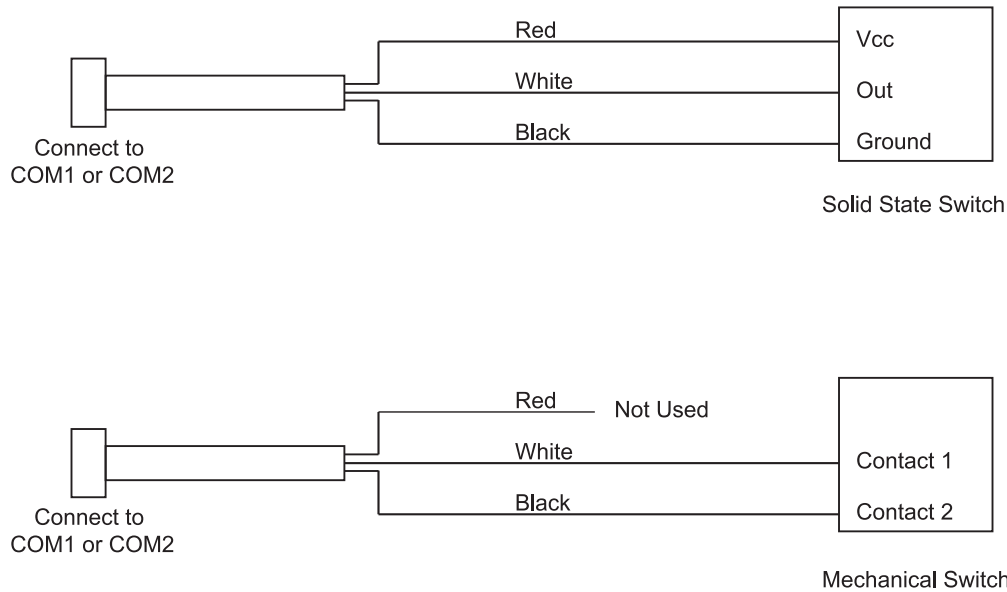

Figure 2-38 *In-Motion Detector Cable Wiring*
2. Wire the cable and switch as shown in Figure 2-38.